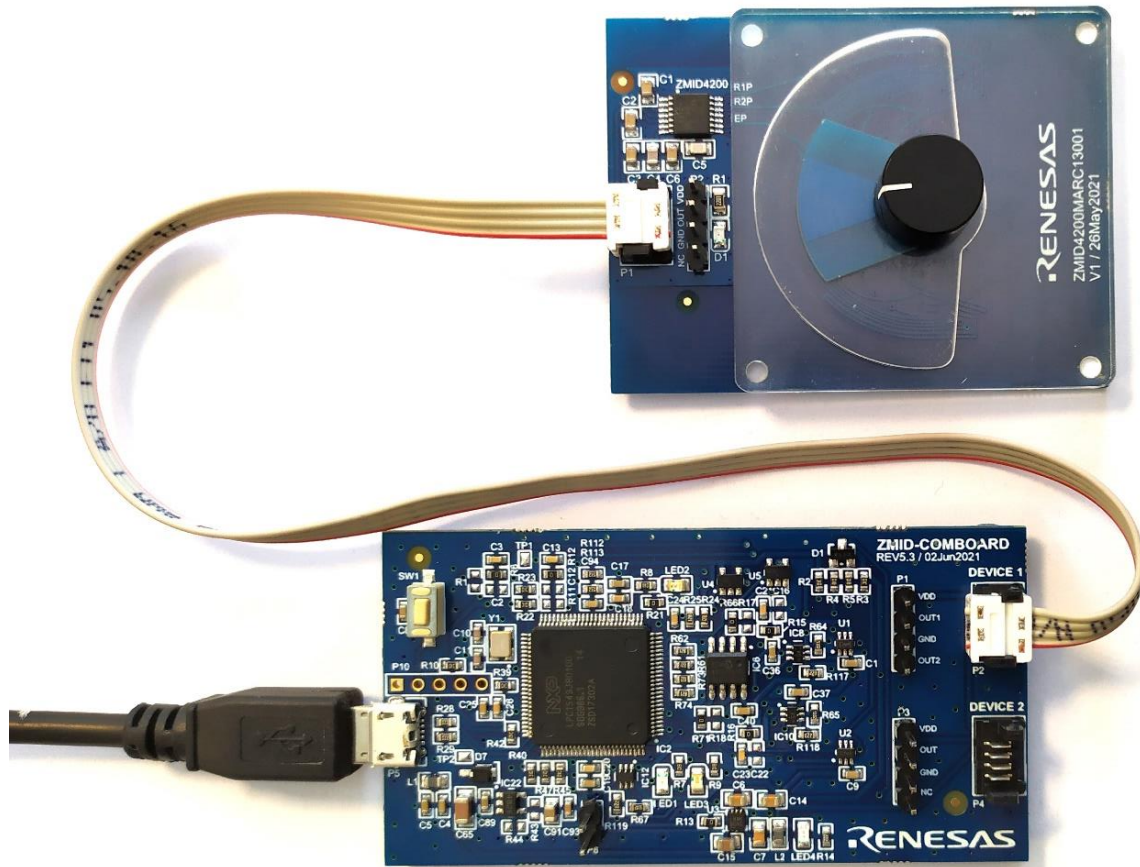

Figure 2. ZMID4200 Evaluation Kit Connections – ZMID4200 Arc Application Module Example
Figure 2 shows the board connections for the ZMID4200 Evaluation Kit using the ZMID4200 Arc Application Module (ZMID4200MARC18001) as an example.
3. Connect the ZMID4200 Application Module via the flat cable to the ZMID-COMBOARD as shown in the example for the ZMID4200 Arc Application Module in Figure 2. See Figure 1 for the connections for the ZMID4200 Linear Application Module and ZMID4200 Rotary Application Module.